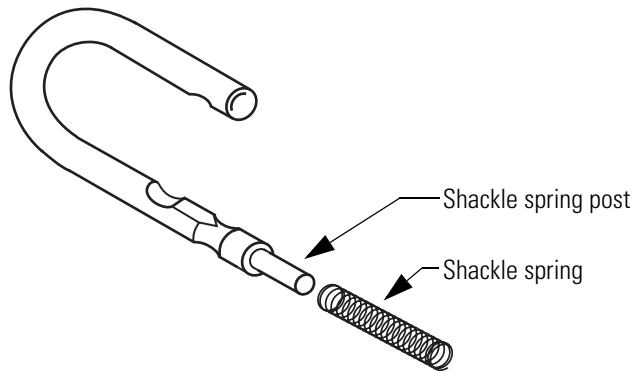

Figure 2.13 Placing the shackle spring
1. Place the shackle spring on the shackle spring post, as shown in Figure 2.13.